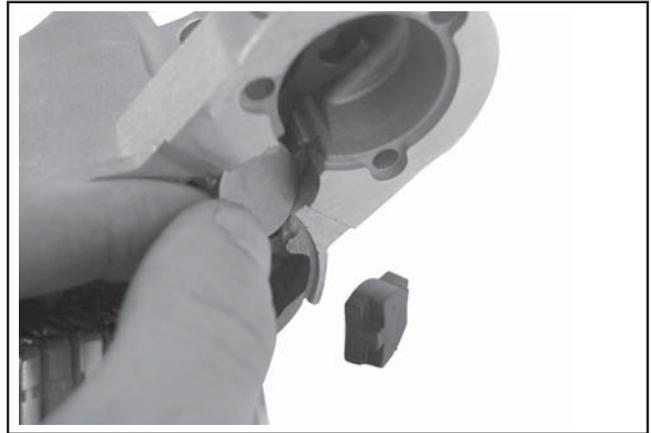

Figure 8-22.
7. Remove the drive lever pivot bushing and backing plate from the end cap. See Figure 8-22.